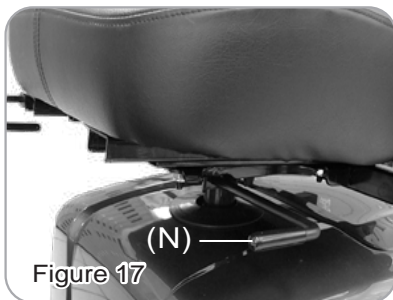
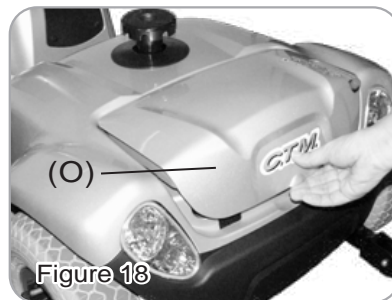
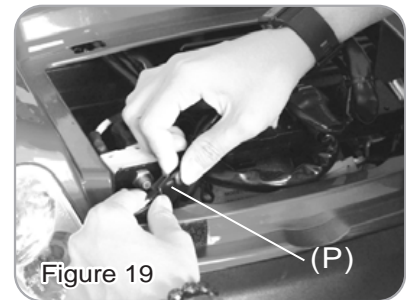
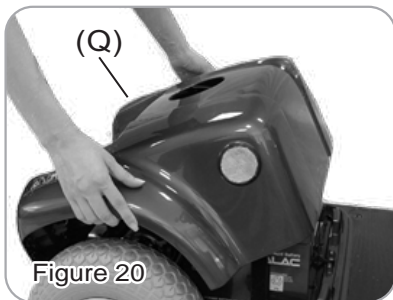

Figure 17
Figure 18
Figure 19
Figure 20
Remove the seat by pull the Seat Rotation Lever (N) up and then lift off. (See Fig. 17) Lift up the Storage Cover (O). (See Fig. 18) and detach the Rear Lighting Wiring Harnesses (P). (See Fig. 19) Remove the Rear Shroud (Q) gently which is held by Velcro. (See Fig. 20).